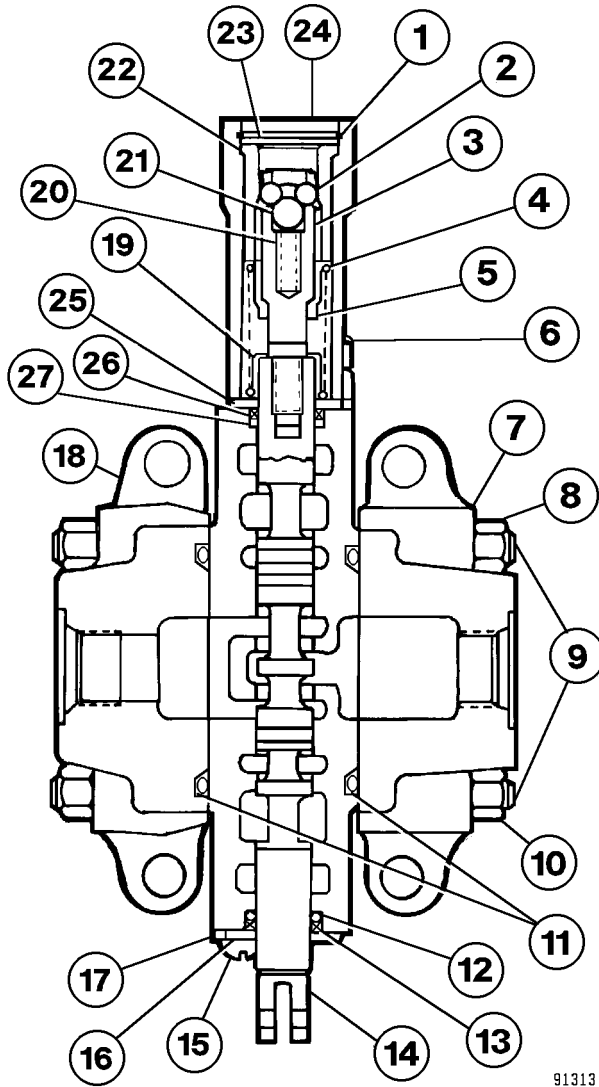
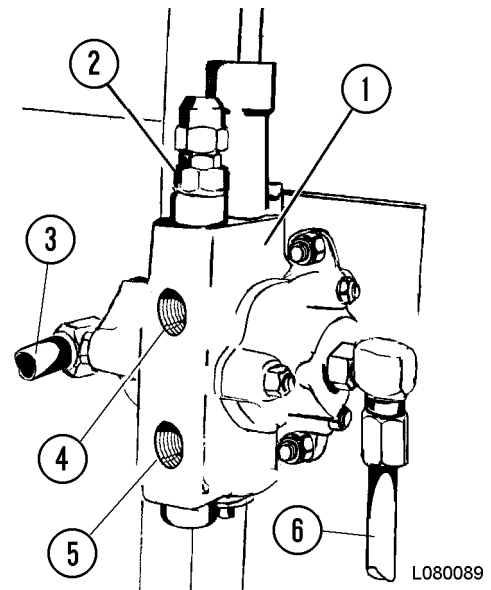

FIGURE 8-13. HOIST PILOT VALVE
FIGURE 8-14. RELIEF VALVE
2. Remove machine screw (15, Figure 8-13), seal plate (16), wiper (13) and O-ring (12).
3. Remove snap ring (1), capscrews (6), cap (24), spacer (23), and detent sleeve (22). Detent balls (2) and (21) will fall free when the cap and detent sleeve are removed. Separate cap (24), spacer (23) and detent sleeve (22), as this will be necessary for reassembly.
4. Carefully slide spool (14) out of spool housing (17). Remove seal retainer (25), wiper (26) and O-ring (27) from the spool.
5. Insert a rod in the cross holes of detent pin (3) and unscrew it from spool (14). Slight pressure should be exerted against the detent pin as it disengages and spring tension is released.
6. Remove spring seats (19), spring (4) and spacer (5).
7. Remove relief valve (2, Figure 8-14) from spool housing (1).
9. Remove nuts (8) and (10, Figure 8-13) and remove tie rods (9). Separate the valve housings. Remove O-ring (11). Remove the poppet check and spring (located on the outlet housing side of the spool housing) from the spool housing.
4. Inspect spool (14, Figure 8-13). The spool must be free of longitudinal score marks, nicks or grooves.
5. Test spool (14) in spool housing for fit. The spool must fit and rotate freely through a complete revolution without binding.
6. Install new O-ring (27, Figure 8-13) and wiper (26). Install seal retainer (25).
7. Install spacer (5), spring seats (19), and spring (4). Thread detent pin (3) into spool (14). Slight pressure will be required to compress the detent spring. Tighten the detent pin to **10 N·m (89 in. lb)**. Install spring (20). Carefully install the spool into the spool housing.
8. Apply grease to the cross holes of the detent pin (3) to hold balls (21) and (2).
9. Slide detent sleeve (22) into cap (24) and place it over a punch. Use the punch to depress ball (21) and insert balls (2) in detent pin cross holes.
10. While holding down ball (21), slide detent sleeve (22) and cap (24) as an assembly over detent pin (3). Continue to insert detent sleeve (22) until it contacts spring seat (19).
11. Secure cap (24) in place with capscrews (6). Tighten capscrews (6) to **7 N·m (62 in. lb)**. Install spacer (23) and snap ring (1).
12. Install new O-ring (12) and wiper (13). Install seal plate (16) and machine screws (15).
13. Using new O-rings, install relief valve (2, Figure 8-14) in the spool housing.